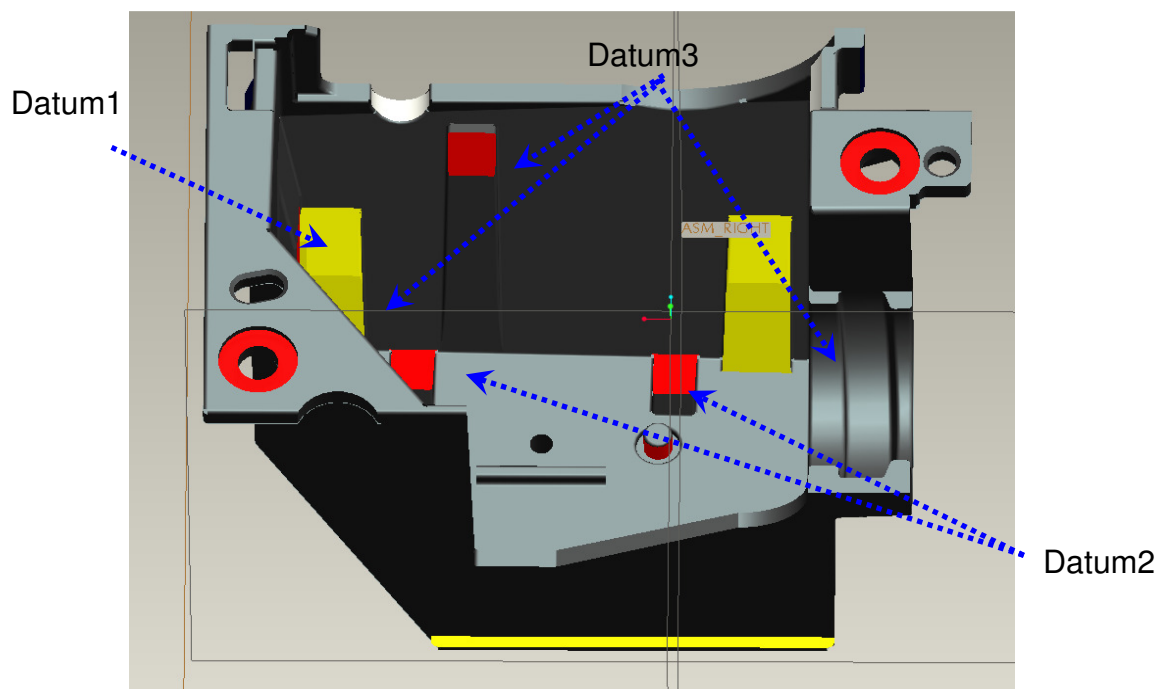

Fig. 3-3
- (2) Assemble Mylar SUB HSG to HSG ILL well (Fig. 3-3).
- (3) Assemble CM to HSG ILL and to make CM contact three datum on the HSG ILL well (Fig. 3-3).